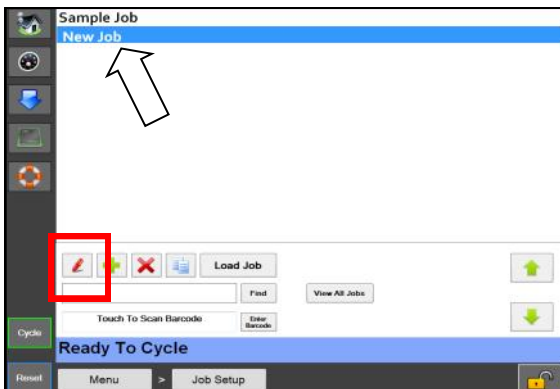

Figure 77B. New Job Listed.
3. Highlight the **New Job** in the Job Details Screen. **Figure 77B.**
4. Then press the Red Pen button. **Figure 77B.**